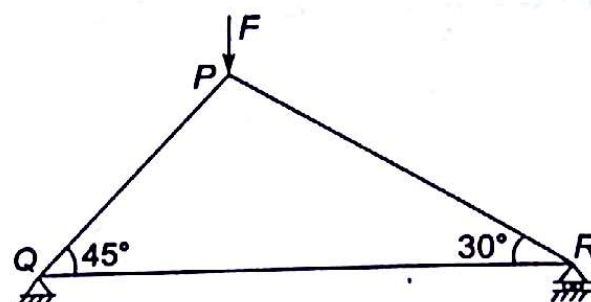

Fig. 4.56
- 4.27 Consider a truss PQR loaded at P with a force F as shown in the Fig. 4.56. Tension in the member QR